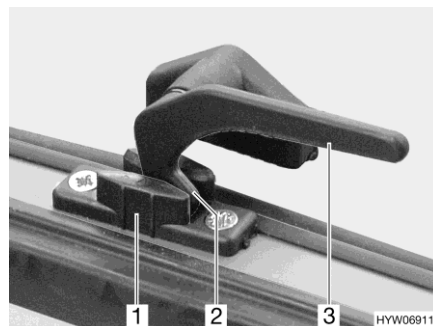

Fig. 43 Catch lever ("continuous ventilation" position)
- "Continuous ventilation" (Fig. 43)
- Turn all catch levers (Fig. 43,3) a quarter turn towards the centre of the window.
- Return all catch levers to their initial position. The locking catch (Fig. 43,2) has to be moved into the recess of the window catch (Fig. 43,1).